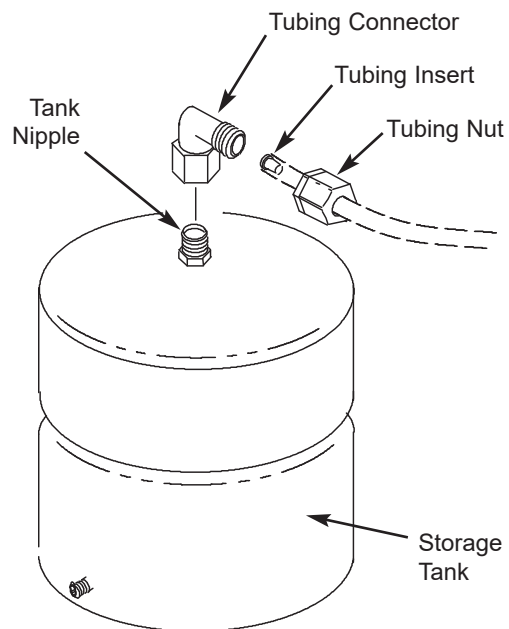

FIG. 13
1. Apply thread sealing tape (2 wraps clockwise) to the threads on the nipple at the top of the tank. See Fig 13.
2. Locate the tubing connector. See Fig. 13. Slowly tighten the tubing connector onto the tank nipple 7-8 full turns, so as not to cross thread or overtighten.